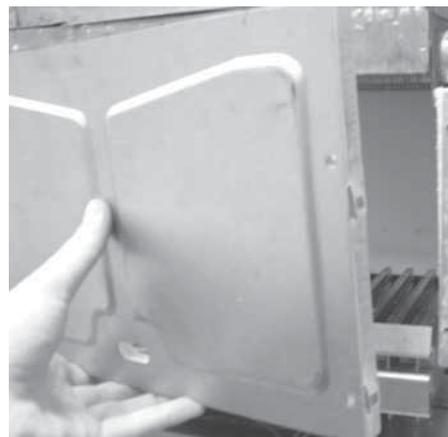

Figure 27
- 17.6** Remove the combustion chamber cover by removing four screws on sides. (*figure 27*)